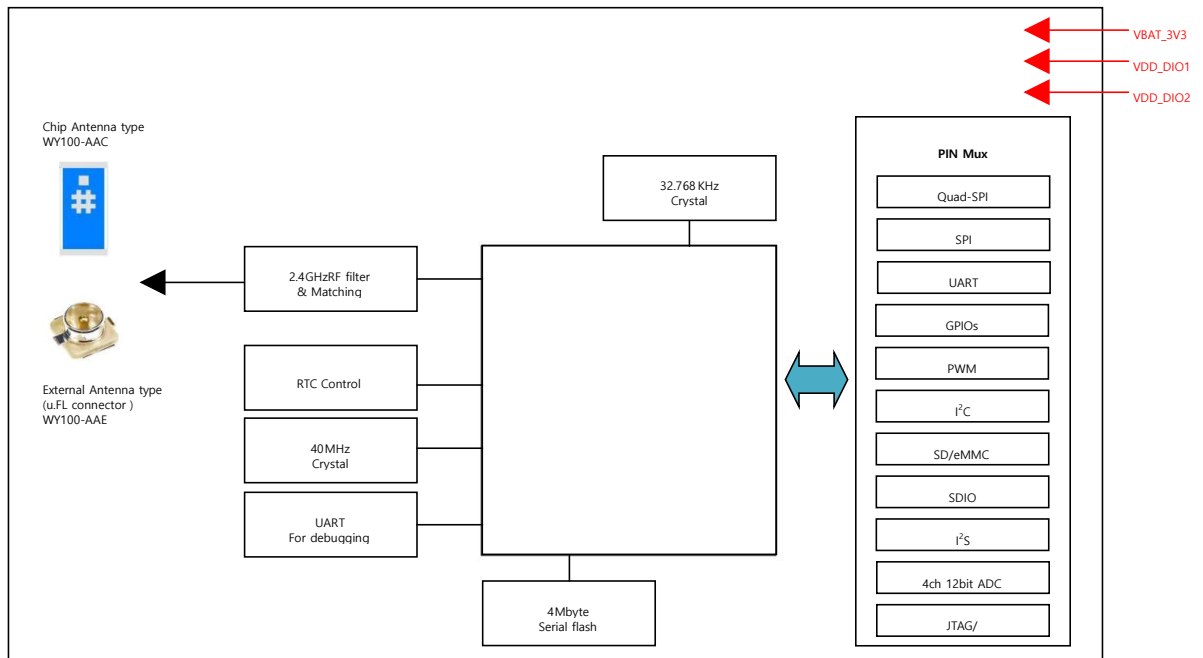

Figure 2: Hardware Block Diagram
Figure 2 shows the hardware (HW) block diagram.